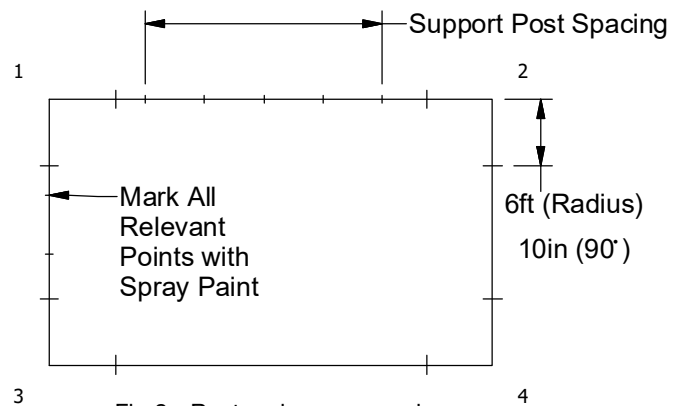

Fig 8 - Rectangle corner ends
6. From each corner point, measure either 6 feet (for radius corners) or 10 inches (for 90° corners) and mark it on the ground. This is the location of where the corner ends and the straight sheets start. See Figure 8.
7. See relevant section to determine how many support posts or pads are required and mark those locations from where each corner ends with spray paint, making sure to extend the lines out far enough to see clearly. See Figure 8.